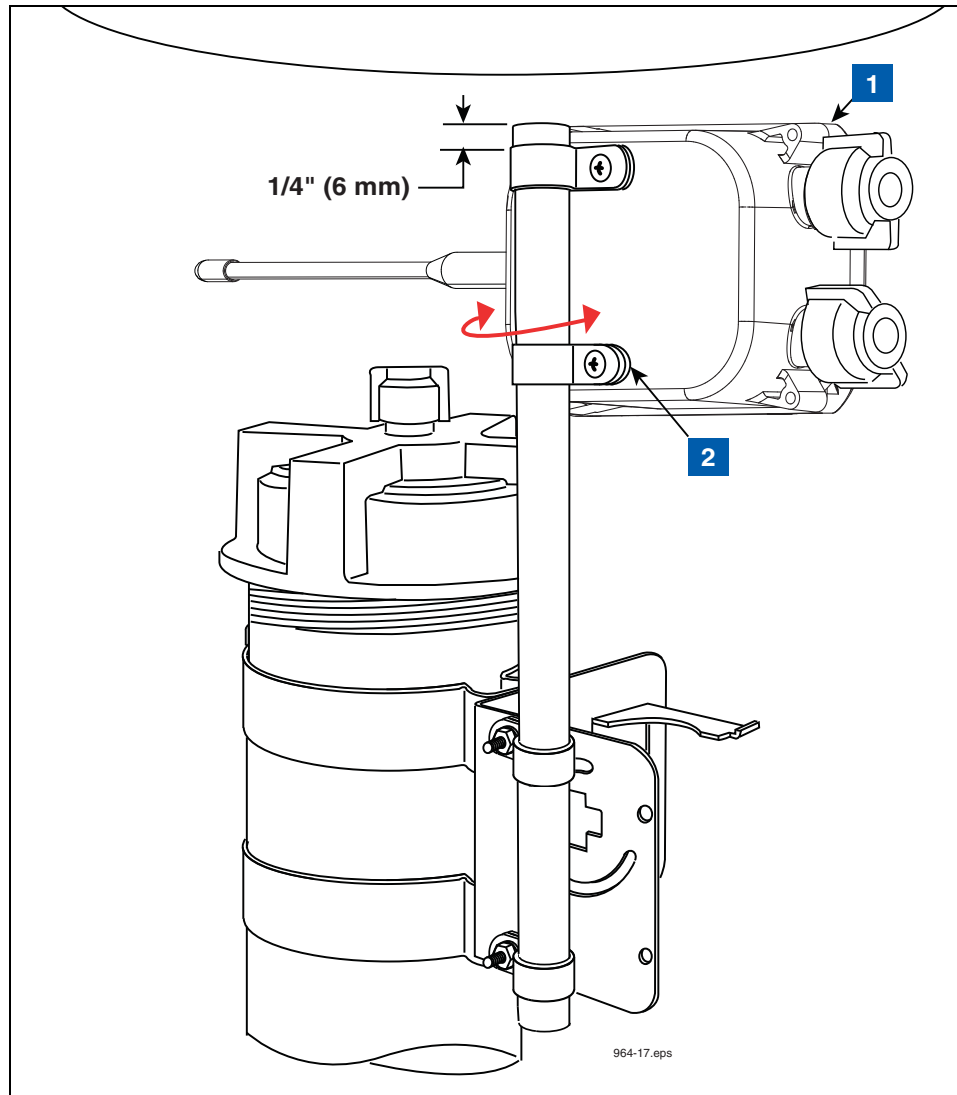

Figure 17. Installing Transmitter Onto Support Conduit
5. Loosen the clamps on the back of the Transmitter and slide the two clamps down over the conduit as shown in Figure 17. Position the Transmitter until the top clamp is about 1/4" below the top of the conduit and tighten the clamps just enough to keep the Transmitter from sliding down.
LEGEND FOR NUMBERED BOXES IN Figure 17